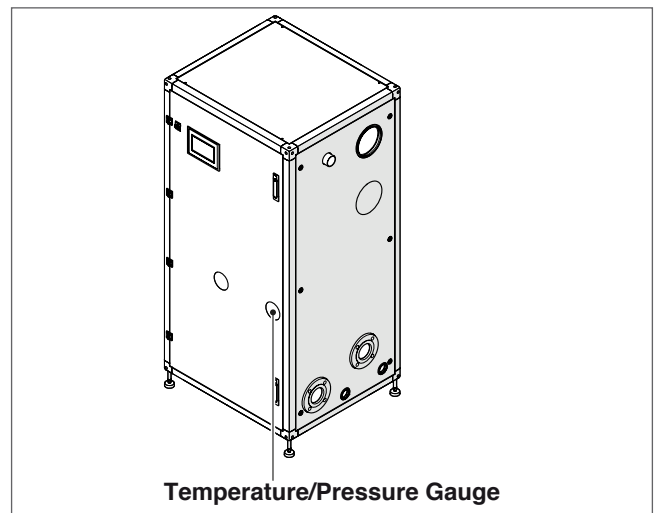

Fig. 48 Temperature/Pressure Gauge location
- Open the fill valve and proceed to fill the heating system and boiler until the pressure gauge (shown on Fig. 48), reads the pressure for which the heating system is sized. The heating system water pressure must be higher than 7.5 PSI.
Open the filling valve and check the pressure on the temperature/pressure gauge of Fig. 48.